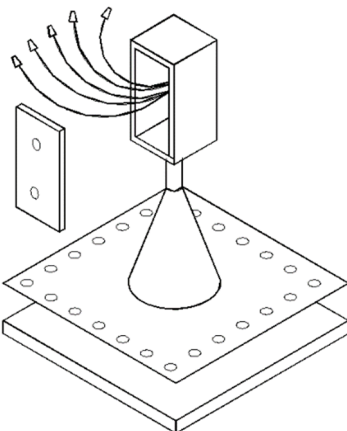

Figure 89. Roof mounted junction box
8. **Connect wiring.** Using wire nuts, connect the wires from a junction box (**Figure 89**) to the cooler and replace the cover on the box. Install coolers rated at 16 AMPS on a 20 AMP circuit and coolers rated at 12 AMPS max on a 15 AMP max circuit. Use one junction box per cooler and the following colors for assigning wires: